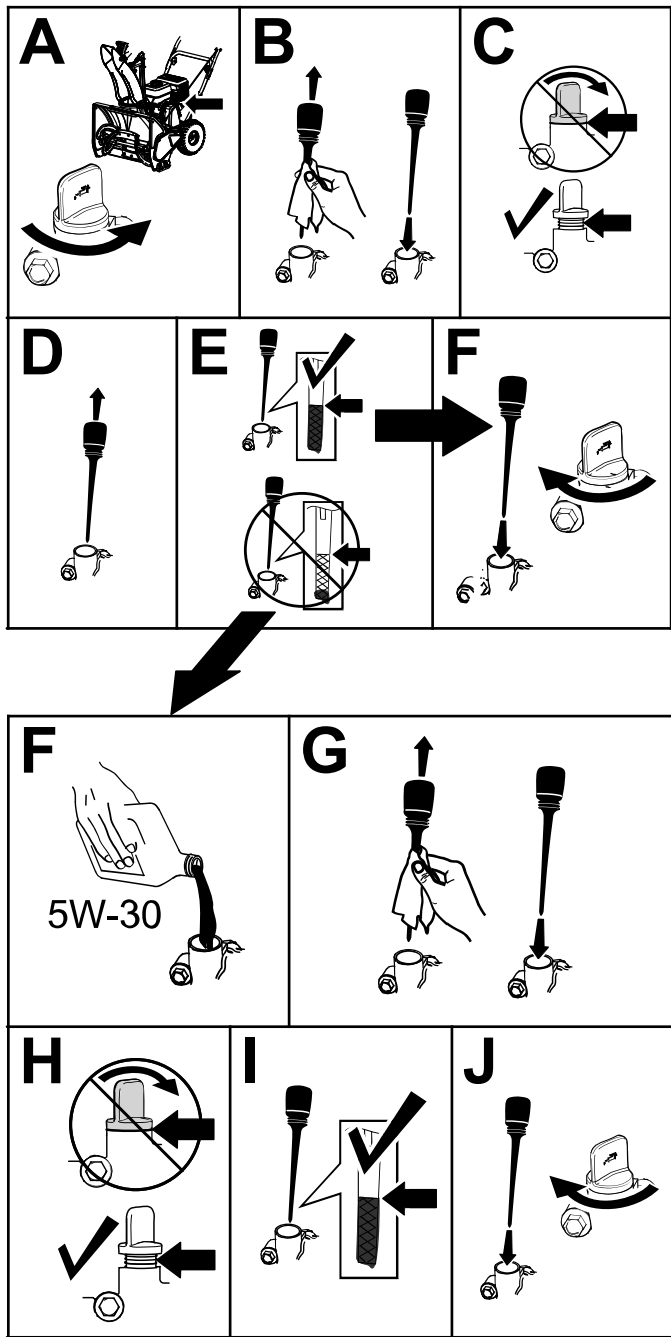

Figure 18
- Fill the crankcase with oil (Figure 18).